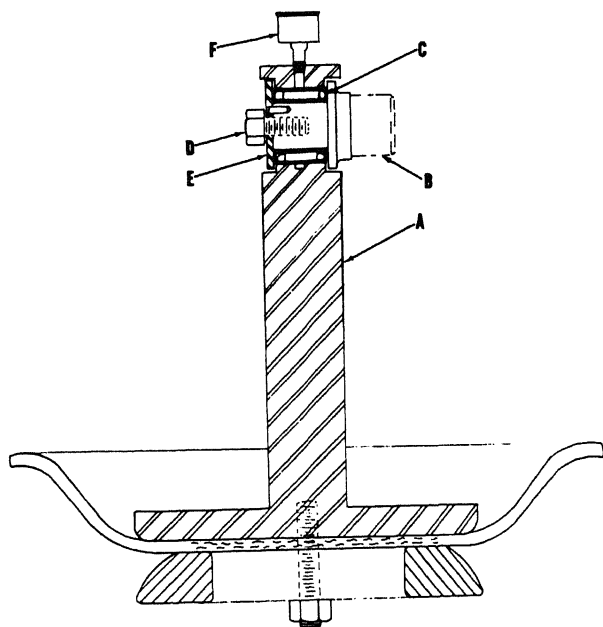

FIGURE 5
- B. Remove two brass nuts with washers (R) and two brass machine screws (K). Washer (L) and weight (P) may be pulled off rubber flap valve (N).
- C. Replace flap valve (N). Assemble items (K) thru (R) and place on pump body over the studs. Place valve body on pump over studs and secure with the $\frac{5}{8}$ " hex nuts.
- # 21. Connecting Rod Needle Bearing Repair (Fig. 5)
- The connecting rod (A) oscillates on the output shaft (B) of the reduction gearcase. Bearing replacement is as follows:
- C. Remove cap screw (D) and keeper (E). Pull connecting rod (A) with bearing (C) off shaft.
- D. Press bearing (C) from bore of connecting rod. The grease cup (F) may be cleaned of any hard grease that may have accumulated. Repack grease cup. Ref. "Lubrication Chart."
- E. Press new bearing (C) into bore of connecting rod, then hand grease bearing.
- F. Replace connecting rod (A) with bearing (C) on shaft (B). Replace keeper (E) and tighten with cap screw (D). Hand turn grease cup cap down to force grease into bearing and grease channel. Refill grease cup to level.
Reference for Fig. 5